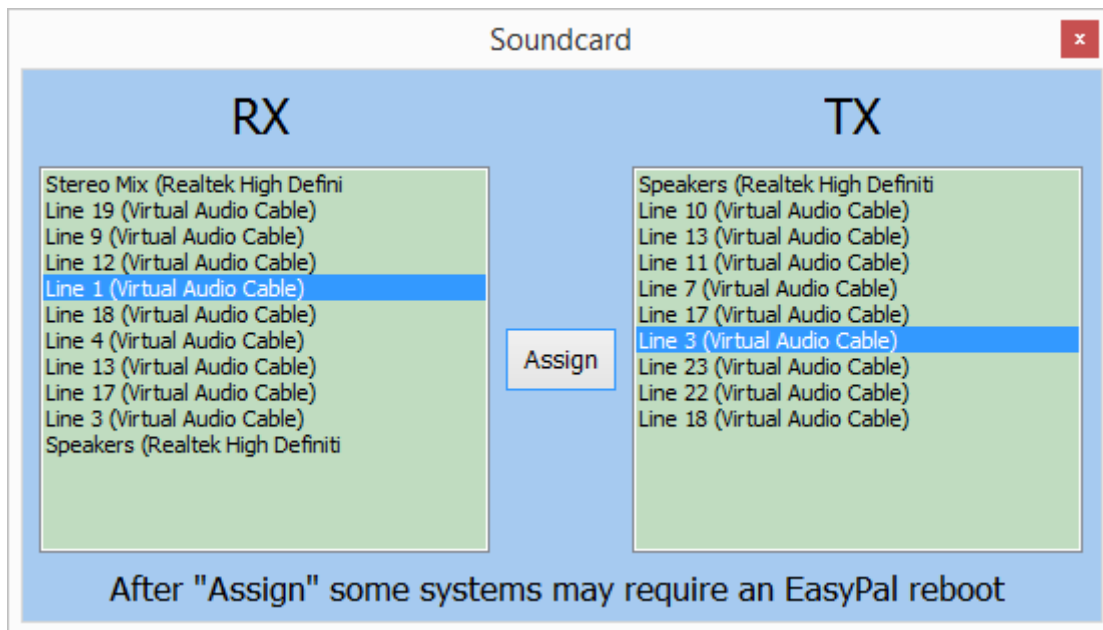

Figure 13: Choose soundcards for receive (RX) and transmit (TX), then reboot EasyPal.
With soundcard options somewhat limited, see *Figure 13* you may have to change soundcards in ZS-1 software:
- In *Figure 13*, I choose Line 1 for receiver and Line 3 for transmit. Click "Assign", and reboot EasyPal.